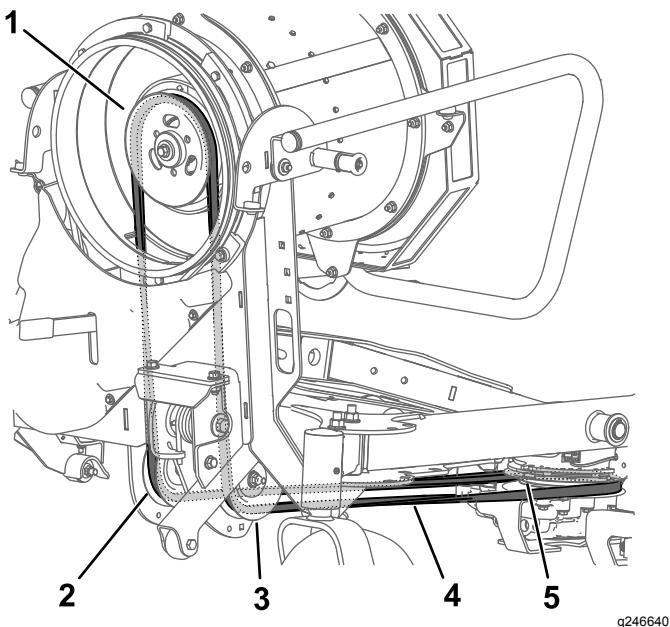

Figure 33
6. Remove the belt from the fan pulley (Figure 33).
7. Route the belt down through the drive adapter assembly, around the idler pulleys, and around the clutch pulley (Figure 33). Ensure that the belt is seated properly in the pulley grooves.